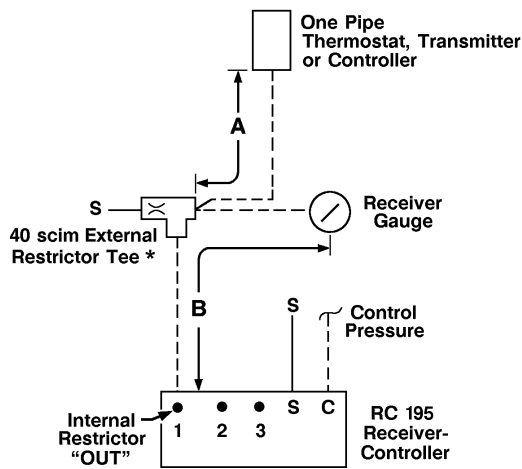

Figure 2.
- When installed tubing lengths exceed maximum recommended values, refer to Figure 2.